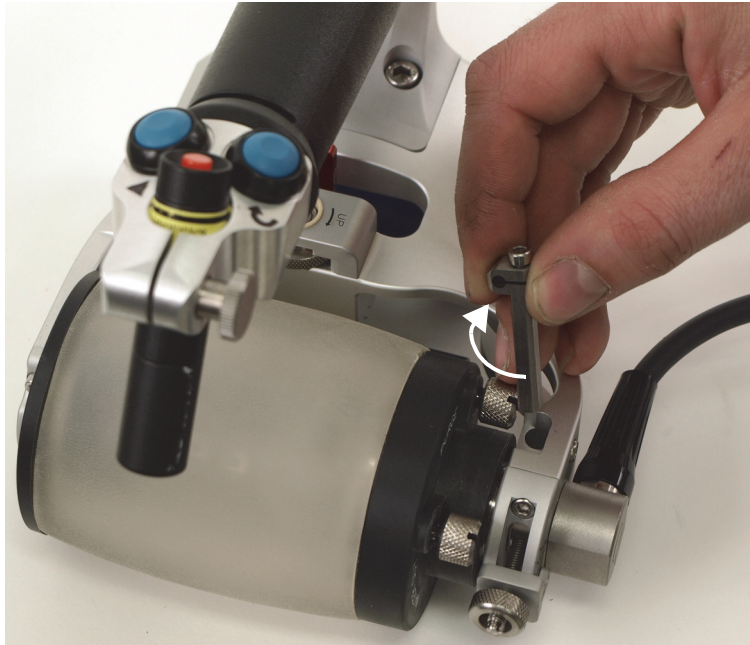

Figure 6-40 Removing and pivoting the alternate encoder holder 90°
9. For the non-XL model only, remove the alternate encoder holder from its storage cavity (Figure 6-40 on page 119).